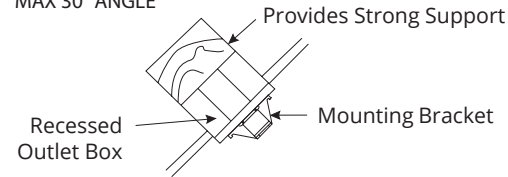

FIG. 3
**NOTE:** The sloped ceiling kit (sold separately) is required for sloped ceiling applications, and will accommodate slopes up to 45° (Fig.3).
**NOTE:** You may need a longer downrod to maintain proper blade clearance when installing on a steep, sloped ceiling (Fig. 3).